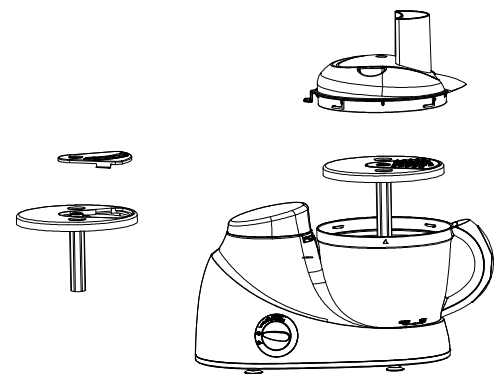

Fig.6
c) Place the lid on the bowl and turn it clockwise until you hear it clicks into position. The spur on the lid sticks out of the base of the lid-locking slot (see fig.6).